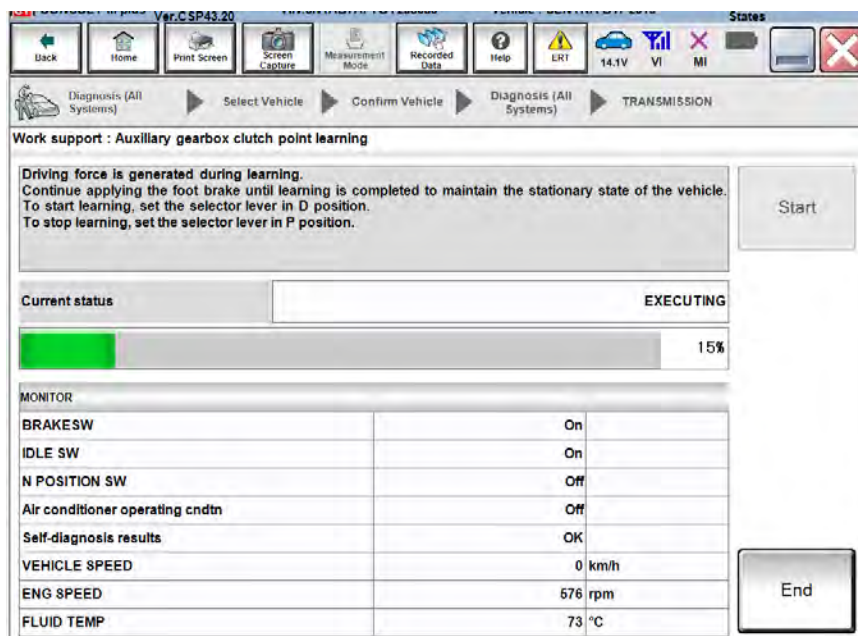

Figure 45
- Figure 45 will be displayed after shifting into D position.